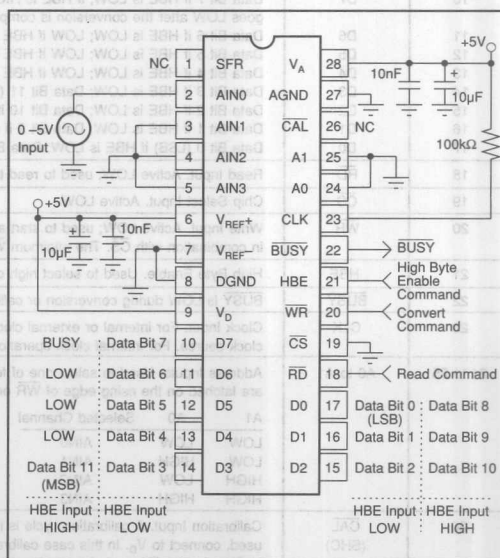

FIGURE 1. Basic Operation.
Figure 1 shows the simple circuit required to operate ADS7803 in the Transparent Mode, converting a single input channel. A convert command on pin 20 (WR) starts a conversion. Pin 22 (BUSY) will output a LOW during the conversion process (including sample acquisition and conversion), and rises only after the conversion is completed. The two bytes of output data can then be read using pin 18 (RD) and pin 21 (HBE).